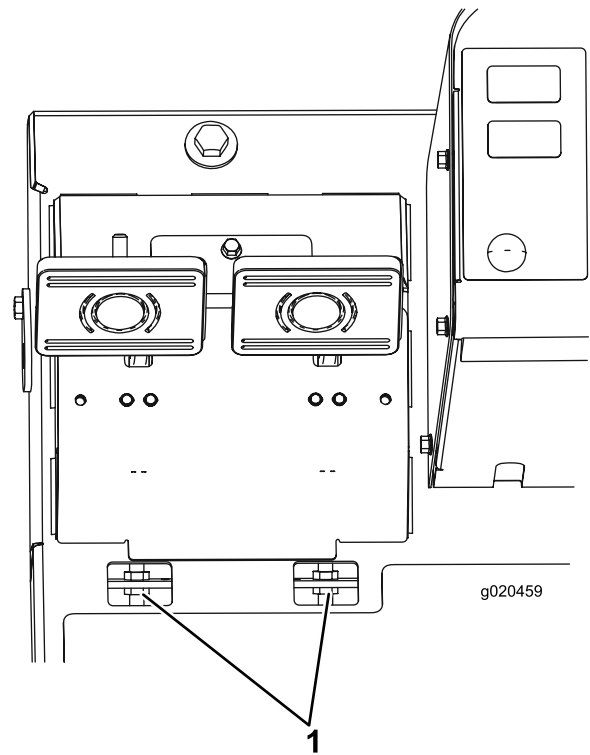

Figure 71
- B. Loosen the front nut on the threaded end of the brake cable (Figure 71).